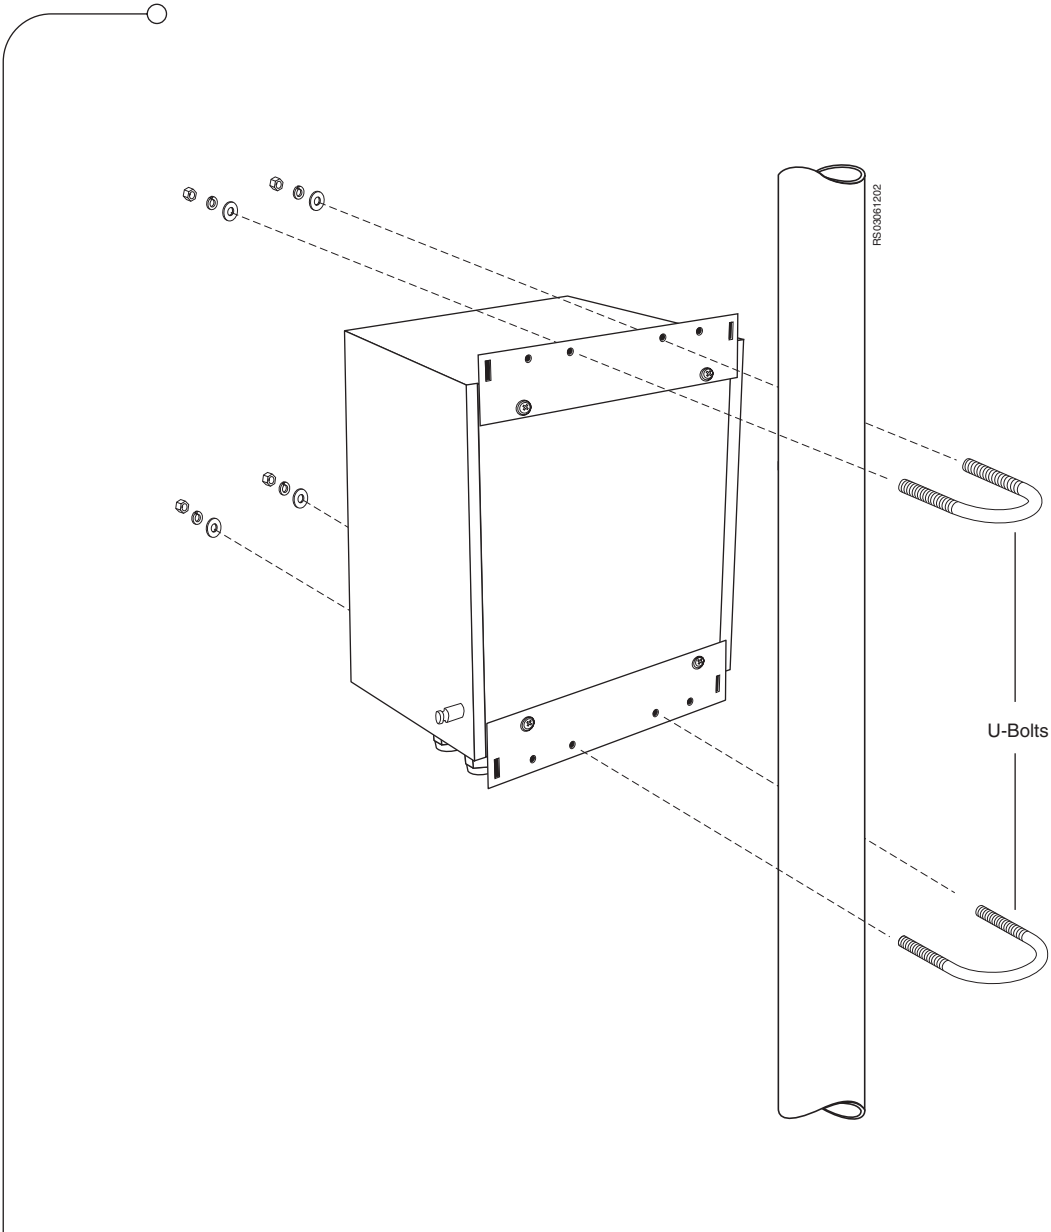

Figure 3.13 Mounting the STS Power Pack on a Metal Pole
1. Insert the appropriate U-Bolts through the metal pole and the STS Power Pack, as shown in Figure 3.13 on page 51.